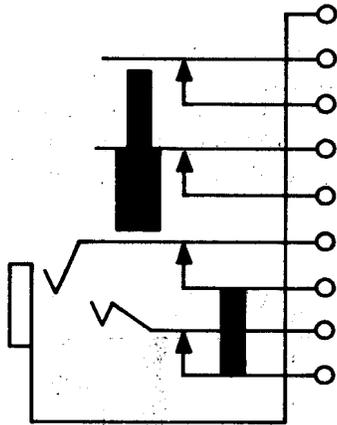

Fig. 6—289-Type Jack
**2.06 289A, C, AM, and CM:** These single-mounted jacks (Fig. 6) are used with the 310 or similar-type plugs. They are intended to be mounted with the springs in a vertical plane.